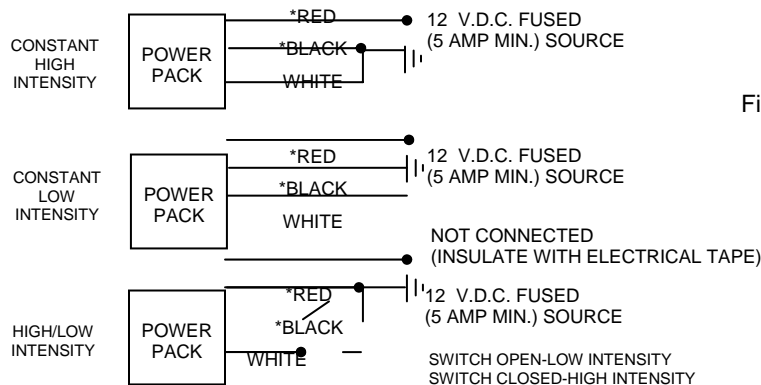

Figure 5
5. Follow wiring schematic shown in figure 5 to ensure proper operation of unit.